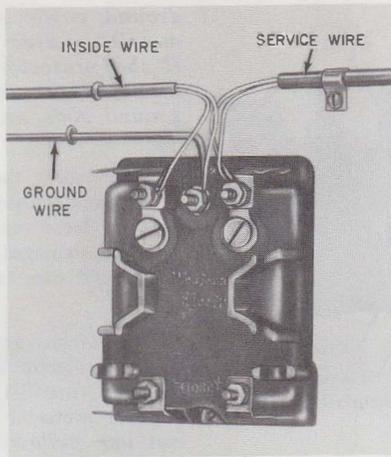
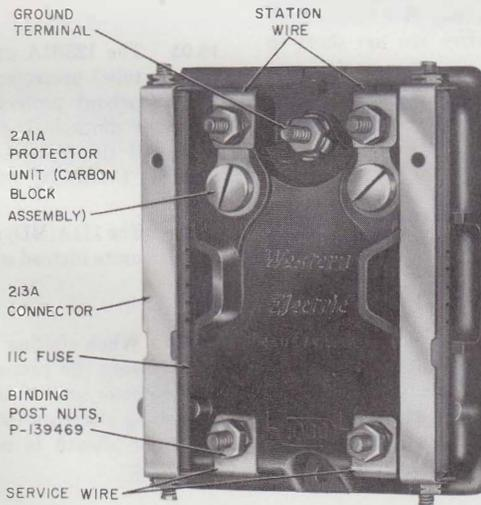

Fig. 98—Alternate Method of Converting 106C Protector
Fig. 99—Converted 106C Protector
14.03 The 106C and the 1293C protectors may be converted to fuseless operation by connecting the line wires directly to the station side of the protector, provided the line wires are of sufficient length. The fuses may then be removed (Fig. 98). Where the line wires are too short to reach the station side of the protector, install two 213A connectors as described in 14.02(11). The 106C protector is equipped with 2A1A protector units; therefore, adapters are not required (Fig. 99).